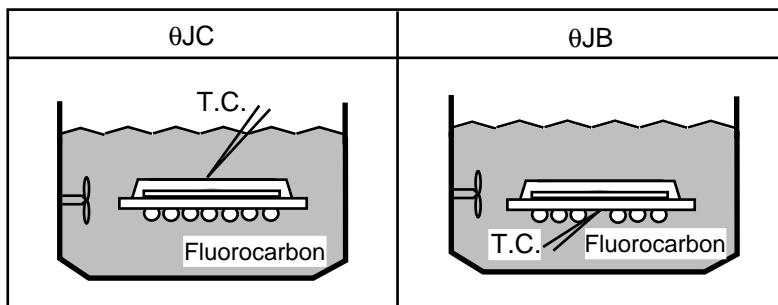

Fig.1 Definition of measurement
5. θ_{JC} is measured at the center of mold surface in fluorocarbon.(See Fig1.)
6. θ_{JB} is measured on the center ball pad after removing the ball in fluorocarbon. (See Fig1.)
3. See Figure 1.